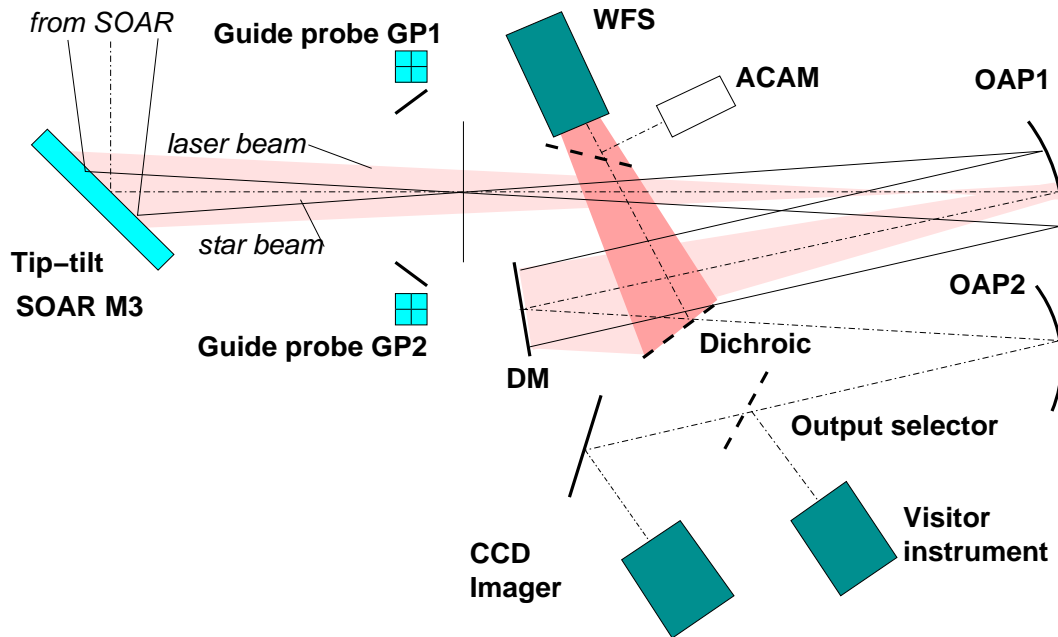

Figure 2: Schematic diagram of the SAM AOM.
The light path inside AOM (Fig. 2) shows how turbulence is compensated. The first active element is the SOAR tertiary mirror M3 that corrects tip-tilt, like in other SOAR instruments. However, SAM does not use the standard ISB guider and has its own two guide probes inside the AOM, right at the focal plane. The light of science target is then re-imaged on the CCD by means of two off-axis parabolic mirrors (OAPs) and a deformable mirror (DM) which corrects defocus and other wavefront deformations. After OAP2, the corrected image can be directed either to SAMI or to the visitor instrument by a movable output-selector mirror.